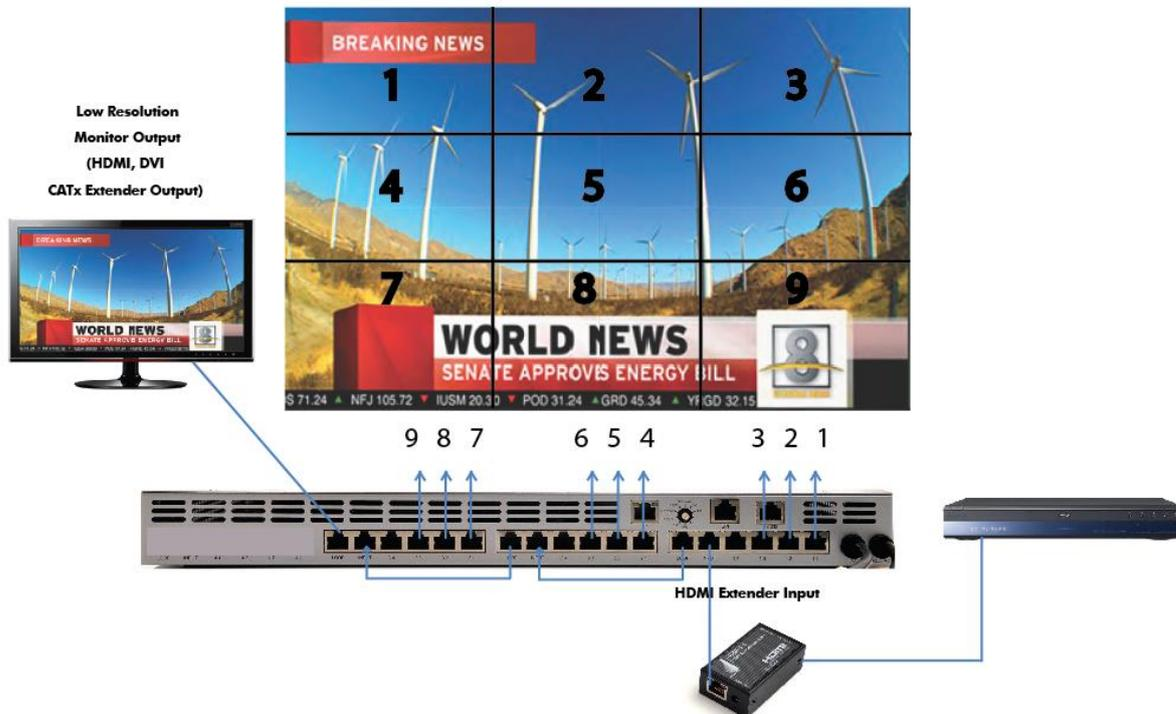

Figure 5-1: W-3x3 Connection diagram
3. Follow the connection diagram on Figure 5.1